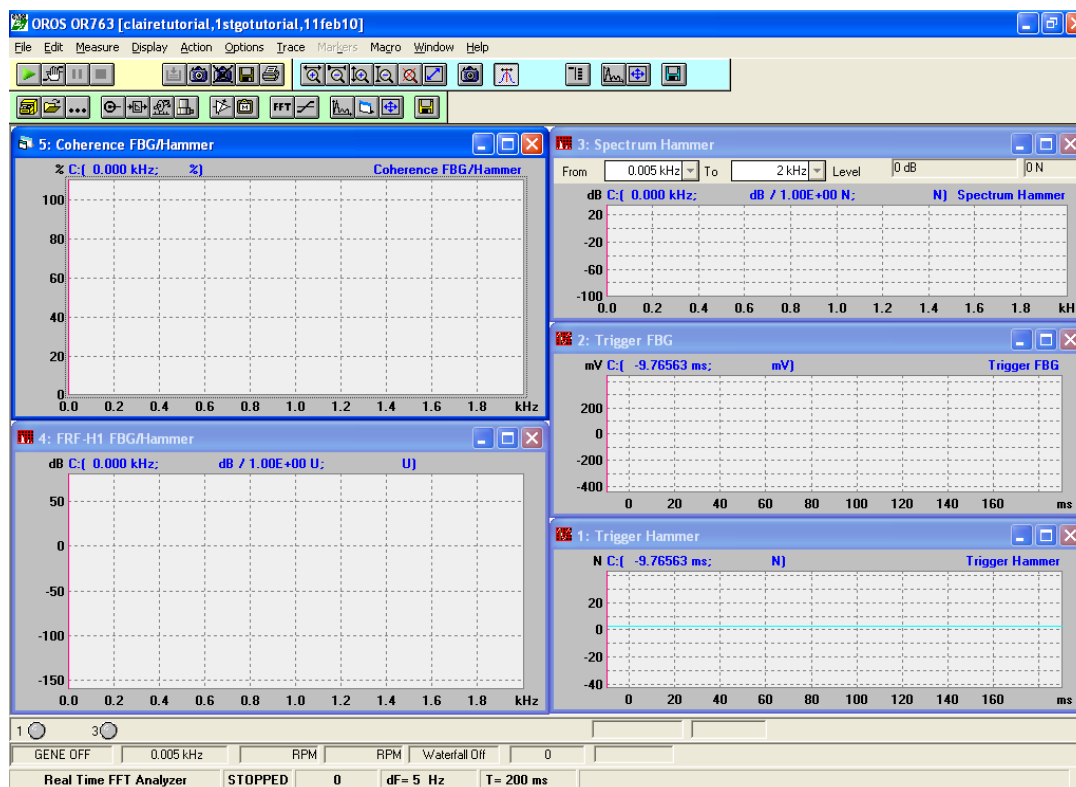

Figure 2.9.1: Screen capture of the OROS frequency analyser set-up for measurement of the FRF for an accelerometer and an array of FBG's
6. Your window should appear as in Figure 2.9.1